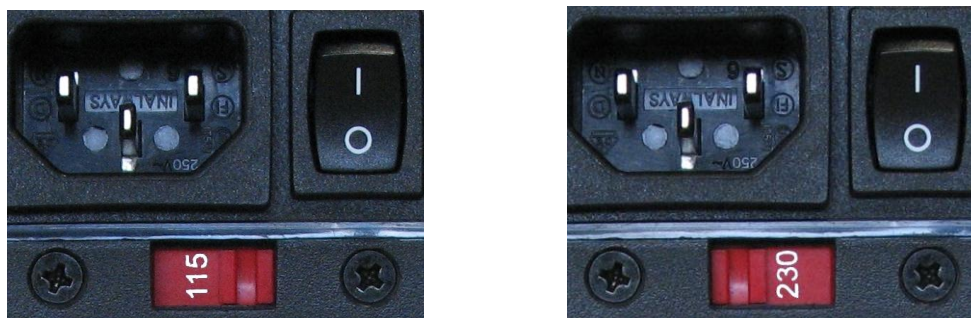

Figure 1: Switchable power supply for 115 V and 230 V
- Switch the power supply to your local main voltage (100-120 VAC or 220 V-240 VAC), see Figure 1.